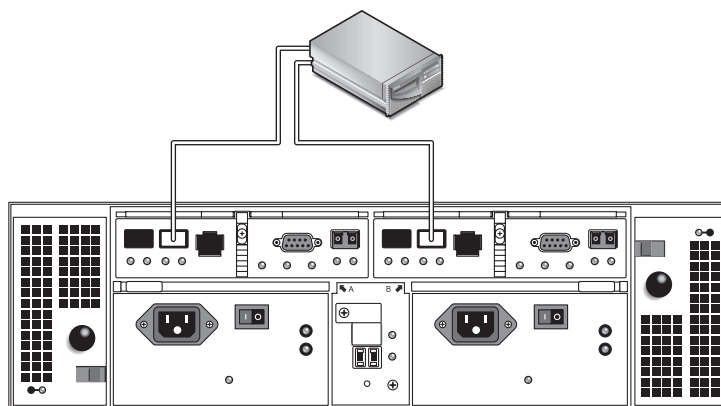
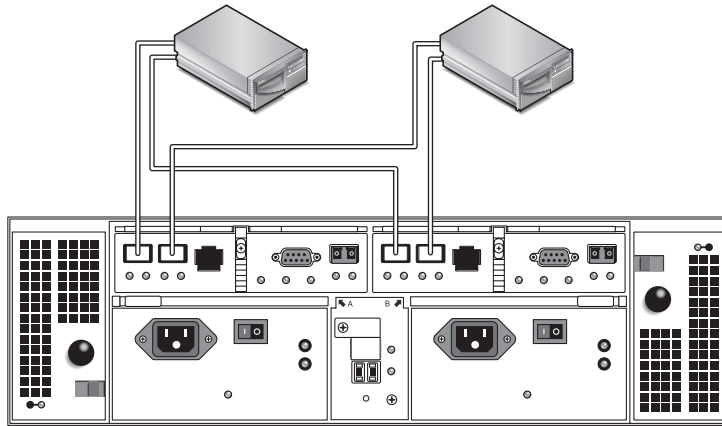

FIGURE 4-5 Direct Connection to a Single Host With Dual HBAs
FIGURE 4-6 Direct Connection to Dual Hosts With Dual HBAs
3. Connect the other end of each fiber-optic cable to the HBAs (FIGURE 4-5 and FIGURE 4-6).